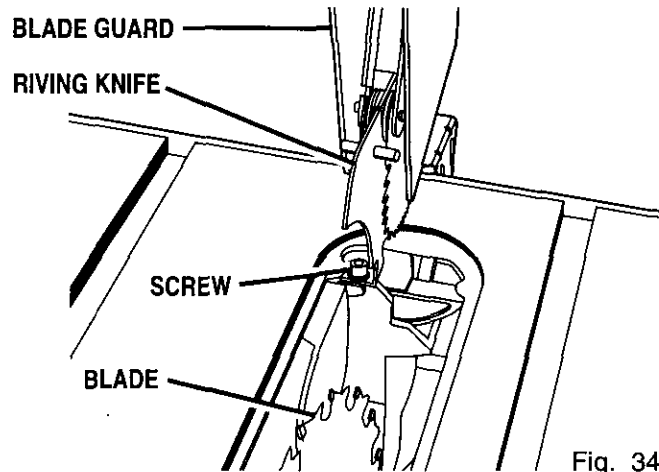

Fig. 34
- Loosen front screw on riving knife with a 5 mm hex key. See Figure 34.